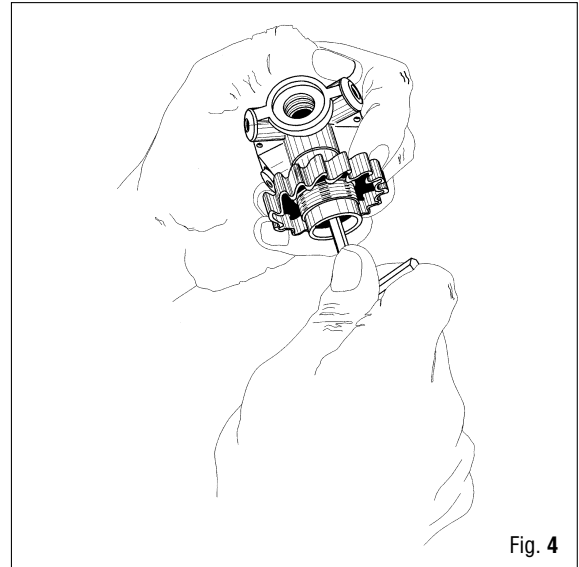

Fig. 4
Insert an 5-mm Allen wrench (B4) inside the DIN fitting (48) and unscrew it completely (Fig. 4).
Using a 5-mm Allen wrench (B 4), tighten the DIN fitting (48) to the first stage body (1) (Fig. 4).